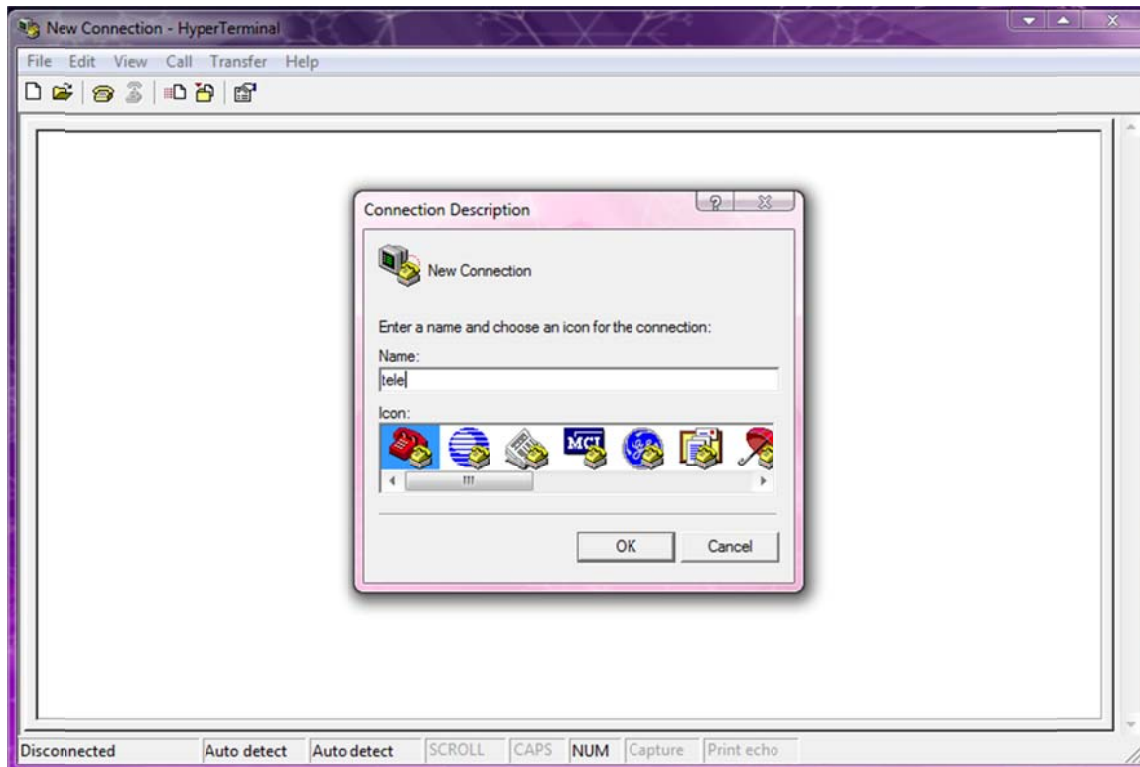

Figure 3-8, Hyper Terminal Interface
- Select COM port when connect them. In some PCs, there might be 2 ports. Such as COM1, COM2... Please make sure the port connecting to the platform is selected and press OK. Displayed as Figure3-8.